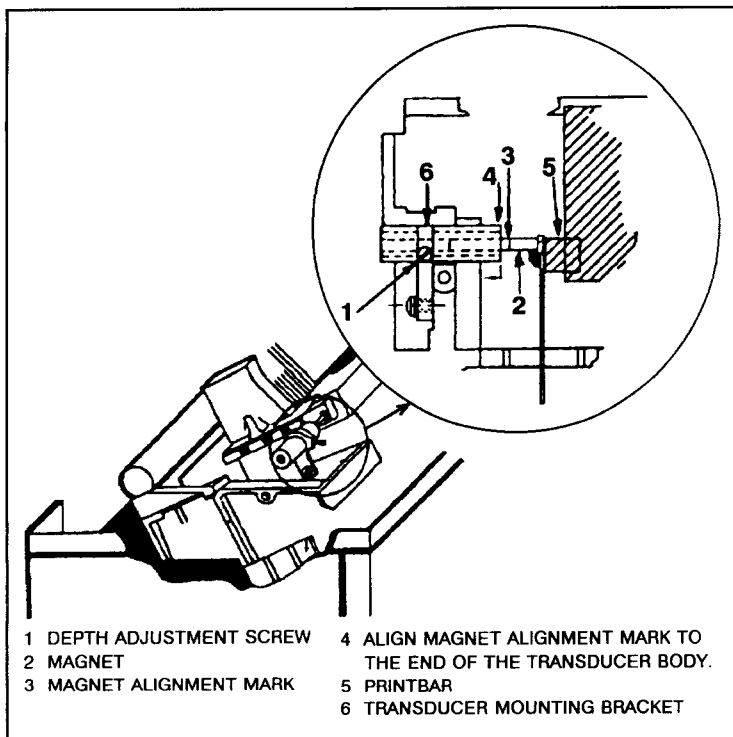

Figure 5-5. Velocity Transducer Adjustment.
- a. Loosen the plastic adjustment screw (see Figure 5-5). (Note, the velocity transducer magnet should be secured to the printbar.)
- b. Position the velocity transducer body by moving it in and out of the frame until the front edge of the body is aligned with the scribe line on the magnetic (see Figure 5-5).